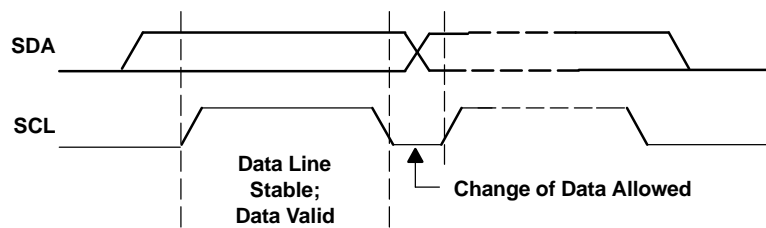
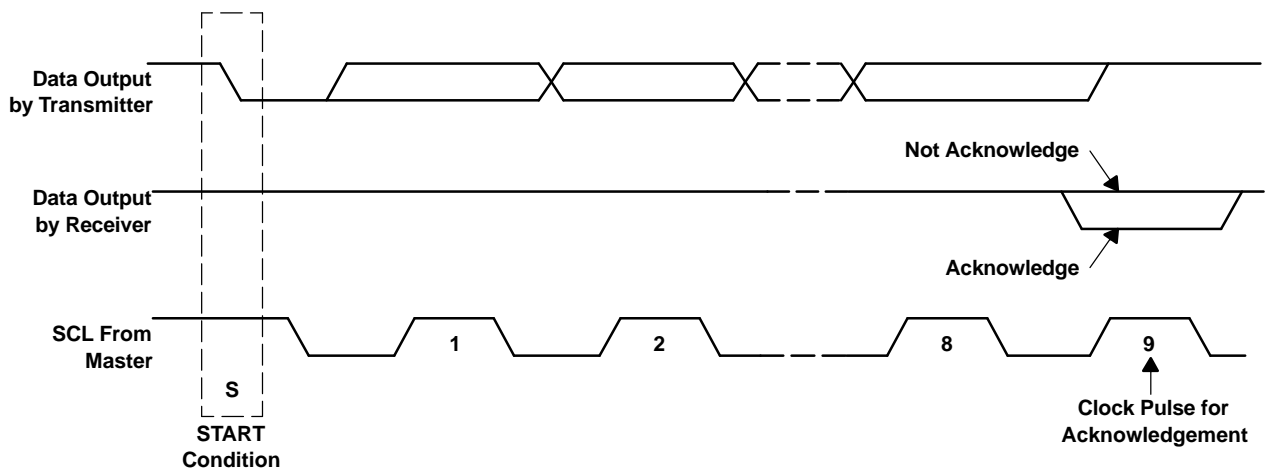

Figure 48. Bit Transfer on the I²C Bus
Figure 49. Acknowledge on the I²C Bus
- The master then generates the SCL pulses, and transmits the 7-bit address and the *read/write direction bit* R/\overline{W} on the SDA line. During all transmissions, the master ensures that data is *valid*. A *valid data* condition requires the SDA line to be stable during the entire high period of the clock pulse (see Figure 48). All devices recognize the address sent by the master and compare it to their internal fixed addresses. Only the slave device with a matching address generates an *acknowledge* (see Figure 49) by pulling the SDA line low during the entire high period of the 9th SCL cycle. Upon detecting this acknowledge, the master knows that communication link with a slave has been established.